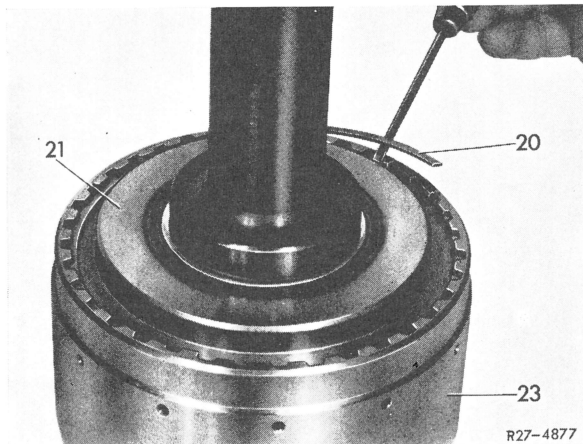

Fig. 1
- 1 Push straight circlip (20) out of groove with a screw driver and remove (Fig. 1).
2 Remove supporting flange (21) with piston out of brake band drum B 2 (23). (Fig. 1).
Attention! Circlips (20 and 25) are different from each other and should not be confused (Fig. 1 and 3).